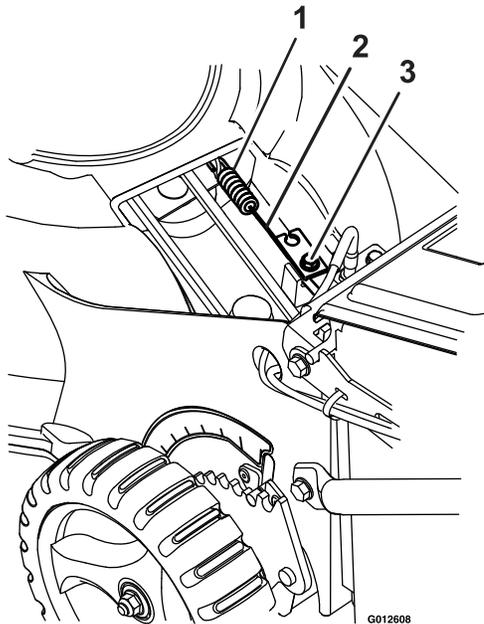

Figure 29
- Loosen the cable clamp screw until the cable conduit slides (see Figure 29).